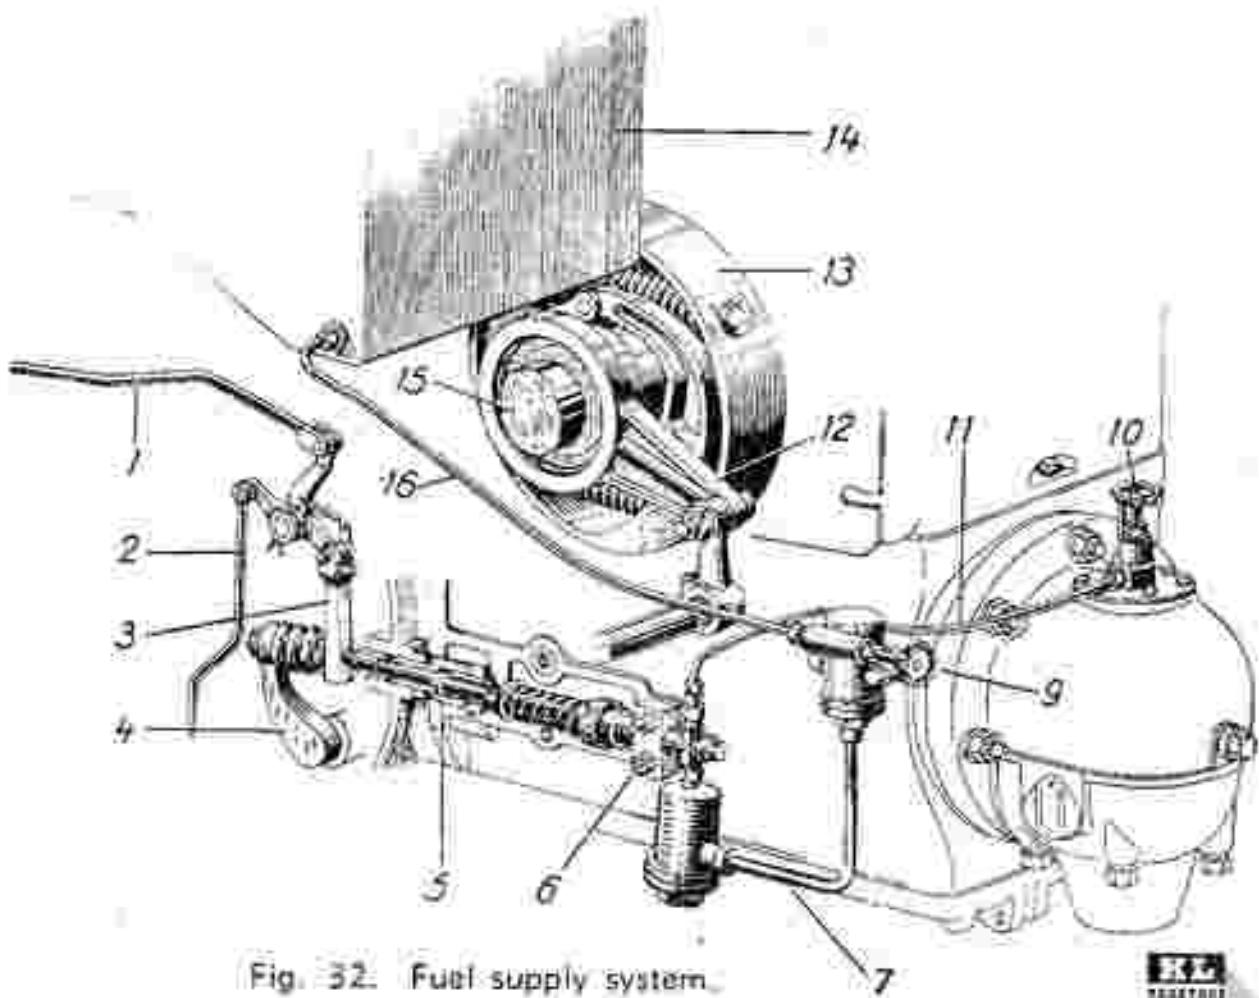
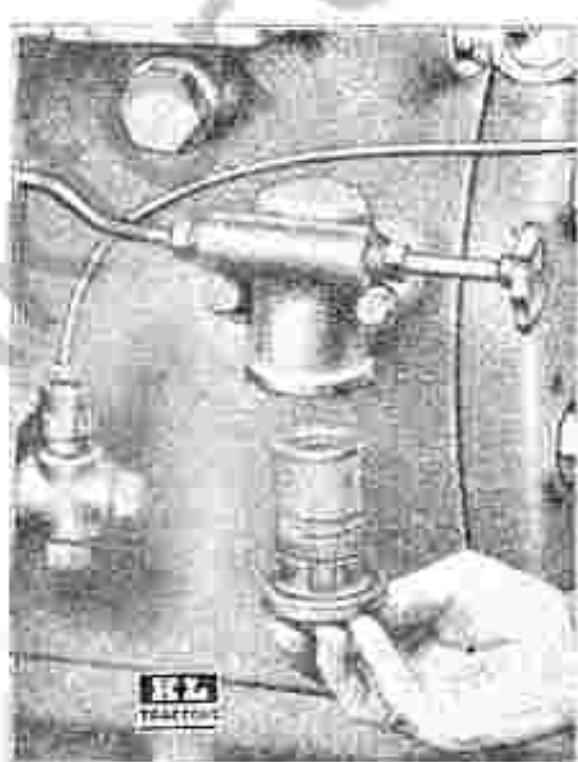
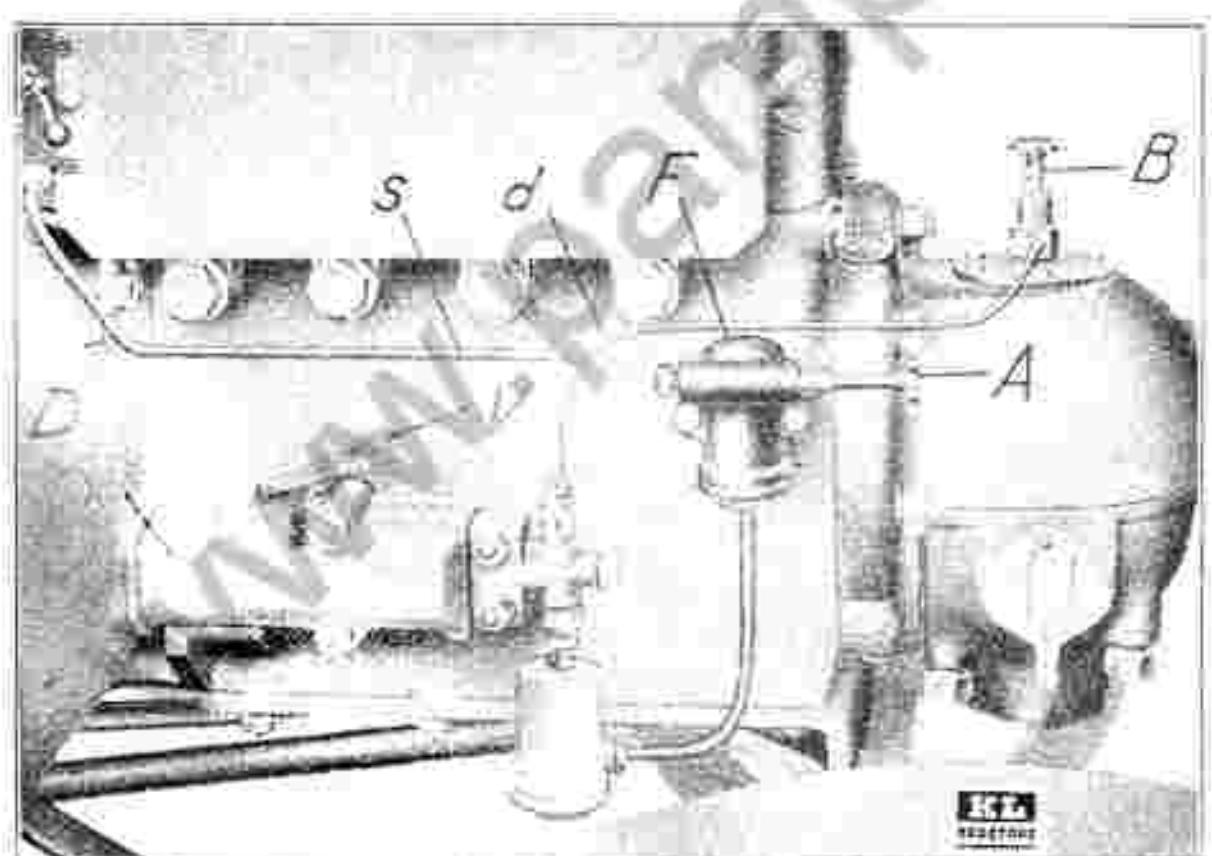

Fig. 32. Fuel supply system.
Fig. 33. Fuel strainer and stop valve.
Fig. 34. Outside view of fuel supply.
CLEANING FUEL TANK - The fuel tank should be completely drained and cleaned every 600 working hours. To drain the tank, unscrew the plug at the bottom of the fuel strainer, Fig. 33, and open stop valve, and remove the air cleaner cowling, disconnect the tank fastening screws and all pipes in the tank including the oil suction pipes (7) and (17), Fig. 15, remove the tank and wash thoroughly with kerosene.
STOP VALVE AND FUEL STRAINER - The fuel strainer (F) Fig. 34, is placed in the pipe line (16) and (7), Fig. 32, between the tank and pump. This is provided with a stop valve (A), Fig. 34, which is opened 4 turns. The strainer should be cleaned every 100 working hours by unscrewing the plug at the bottom, as shown in Fig. 33.
FUEL PUMP - The plunger type fuel pump (6), Fig. 32, is operated by an eccentric strap through governor rocker arm (4), pump tappet (5) and end pump plunger. Between rocker arm (4) and tappet (5) the regulating wedge (3) is interposed, and this is operated by the fuel lever, thus varying the stroke and consequently the amount of fuel delivered to the engine.
CHECKING AND ADJUSTMENT OF PUMP STROKE - With the fuel lever set to mark (1), Fig. 33, the engine must idle at 350 r.p.m. checked with a revolution counter. If this is not so, adjust the engine speed to this number of revolutions by screwing the tappet guide (9), Fig. 40, in or out while engine is running after loosening the lock nut (8). After adjustment, tighten the lock nut but not to such an extent that the tappet will stick. Then check the minimum idling speed once more. Then check the pump stroke which must be 2.0 mm.